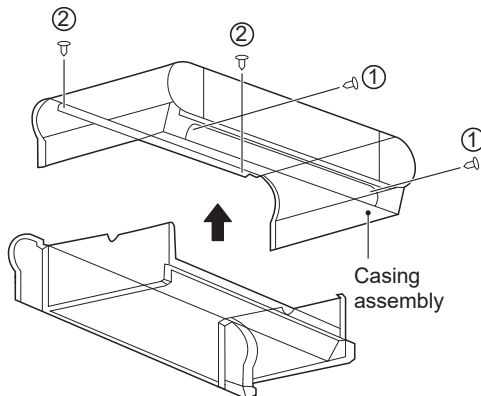

Figure 4-4 Removal of casing
- b) As shown in Figure 4-4, remove screws ①\*2 and ②\*2 and then the casing.